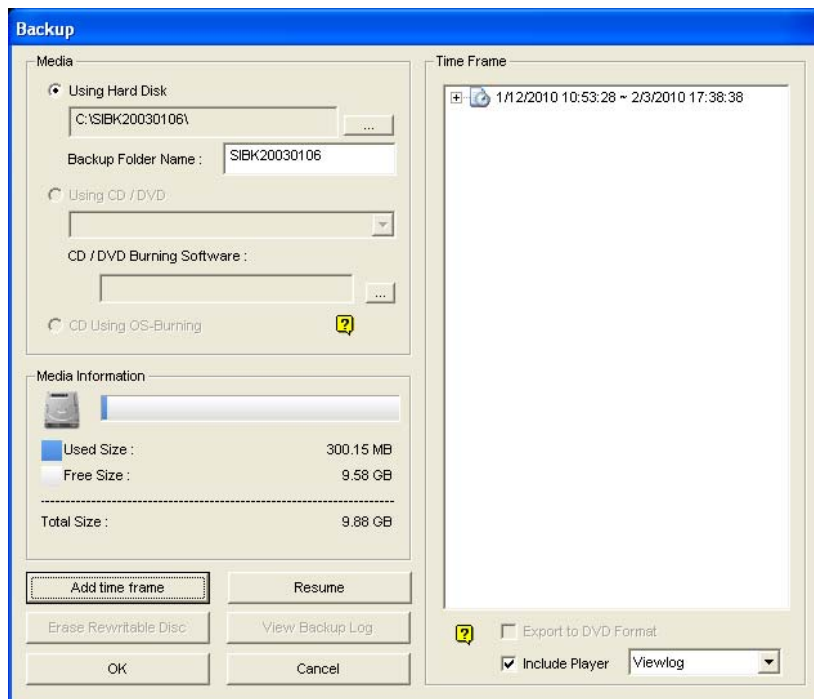

Figure 5-2
5. Click **OK**. The Backup dialog box (Figure 5-2) appears.
on the Backup dialog box (Figure 5-2), the system will ask you to paste the backup files to the CDR-Writer program, and call up the assigned burning software for you to paste and backup files.
2. The **Export to DVD Format** option, at the right bottom of the Backup dialog box (Figure 5-2), outputs your files in DVD movie format, meaning that it will play in any DVD player that supports writable DVD disks. To enable this option, MPEG2 files recorded by the GV-2004 Card / GV-2008 Card need to be selected first (see the Select Camera(s) option), and a DVD±RW disk is required as well.